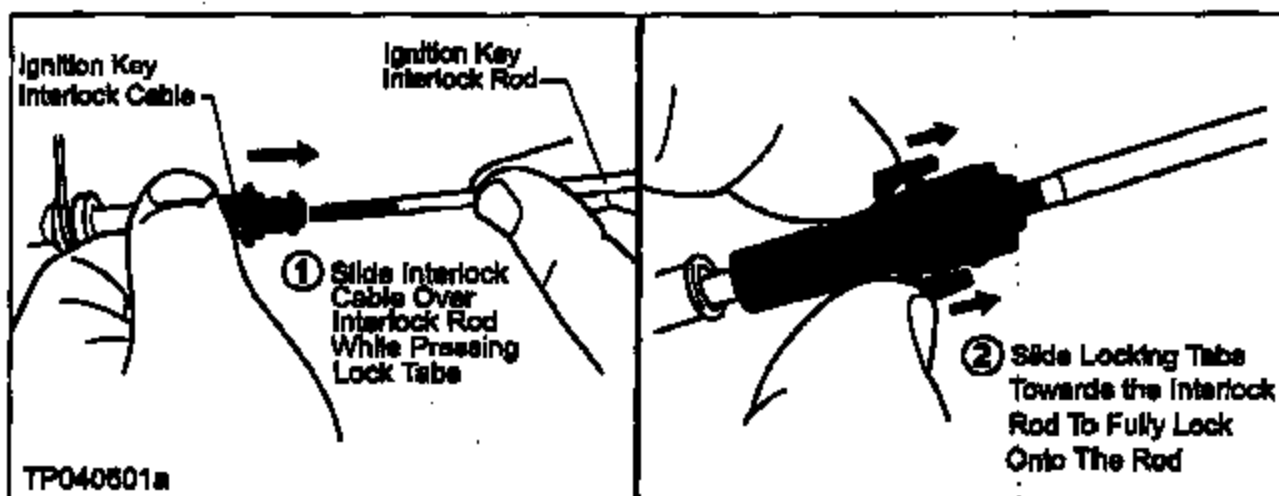

Figure 9
13. Re-install the Ignition Key Interlock Cable onto the Interlock Rod as follows (see Figure 9).